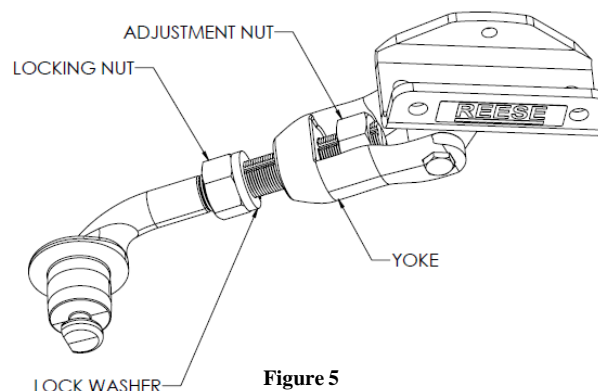
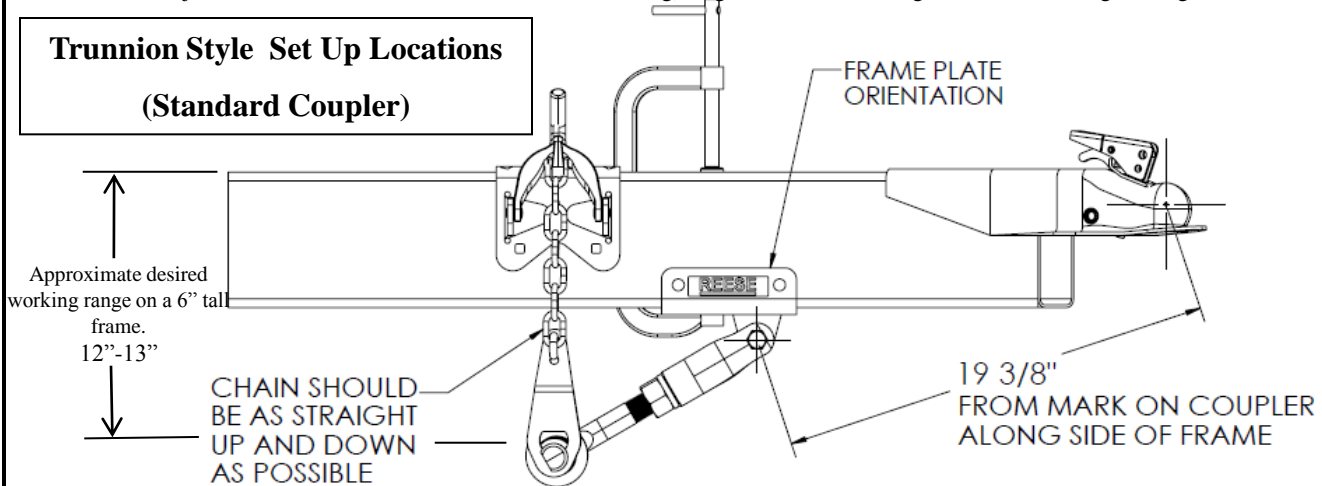
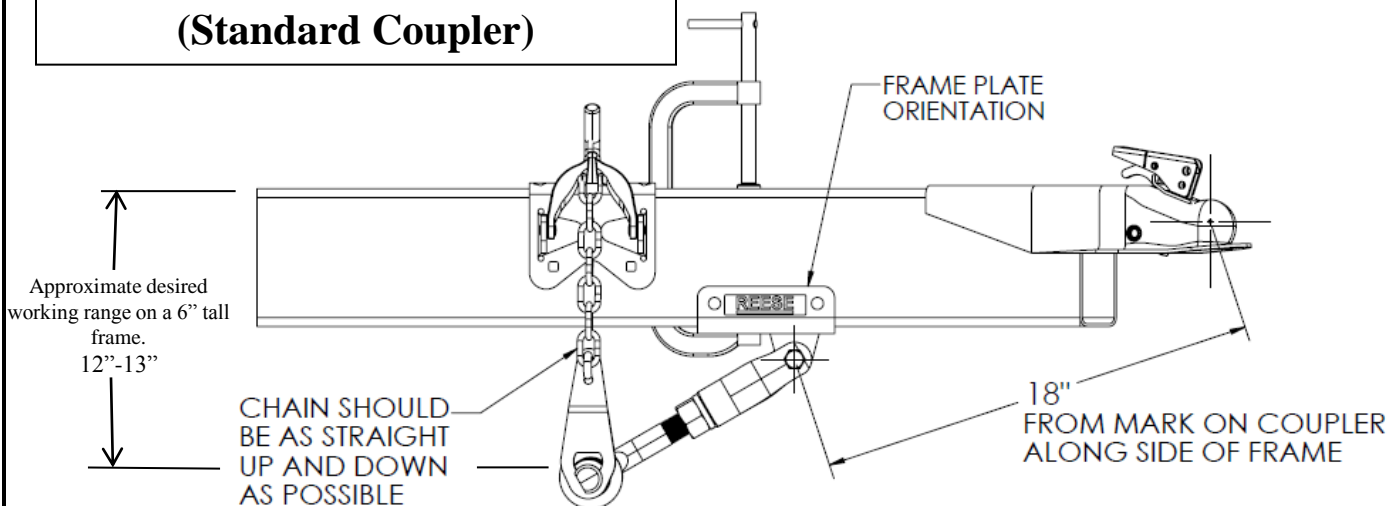
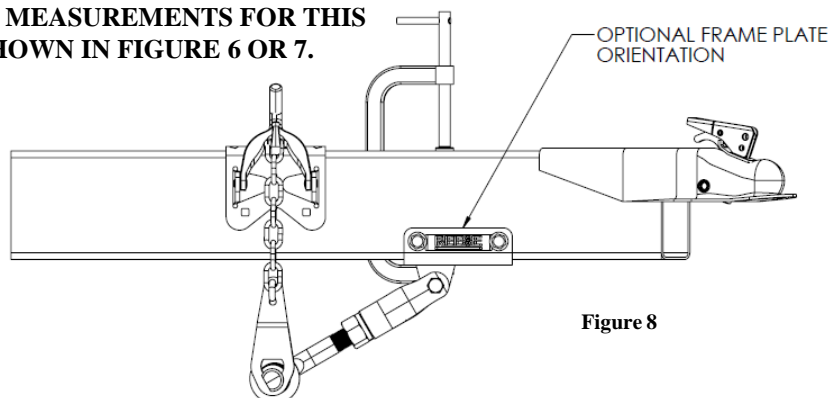

Figure 5
Figure 6 – Cam Arm Approximate Locations for Trunnion Style Weight Distribution kits
Figure 7 – Cam Arm Approximate Location for Round Bar Weight Distribution kits
Figure 8
4. Position the adjustment nut and locking nut to the outermost positions as shown in figure 5. If the adjustment is difficult, as the adjustment nut must be turned by hand, apply a small amount of light penetrating oil such as WD40 or PB Blast to the threads of the cam arm. Work the adjustment nut back or forward to get the penetrating oil into the threads until the adjustment nut moves freely to the desired position.
- Using a C-clamp suitable to accommodate your trailer frame height and the Dual Cam HP frame plate, temporarily clamp the Dual Cam HP cam arm assembly to the trailer frame and Dual Cam HP frame plate as shown in **figure 6 for Trunnion style Weight Distribution kits**, for **Round Bar style Weight Distribution Kits**, follow the dimensions in **figure 7**.
Measure from the mark on the ball coupler to the center of the cam arm pivot bolt as shown in figure 6 or figure 7 on the next page. If the frame plate interferes with any part of the trailer frame, the orientation can be changed by switching sides, see figure 8 for optional Frame plate orientation – maintain the same coupler center to cam arm pivot dimension regardless of frame plate orientation.
The Measurements in figures 6, 6A, 7 & 7A are guidelines, adjustment of the cam arm length via the adjustment nut (Figure 5) may be required after hookup in later instructions of this manual. Cequent Performance Products, Inc. is not responsible for damage incurred due to disregarding any part of this manual.
The Measurements in figures 6, 6A, 7 & 7A are guidelines, adjustment of the cam arm length via the adjustment nut (Figure 5) may be required after hookup in later instructions of this manual Cequent Performance Products, Inc. is not responsible for damage incurred due to disregarding any part of this manual.
FOLLOW THE SAME MEASUREMENTS FOR THIS ORIENTATION AS SHOWN IN FIGURE 6 OR 7.